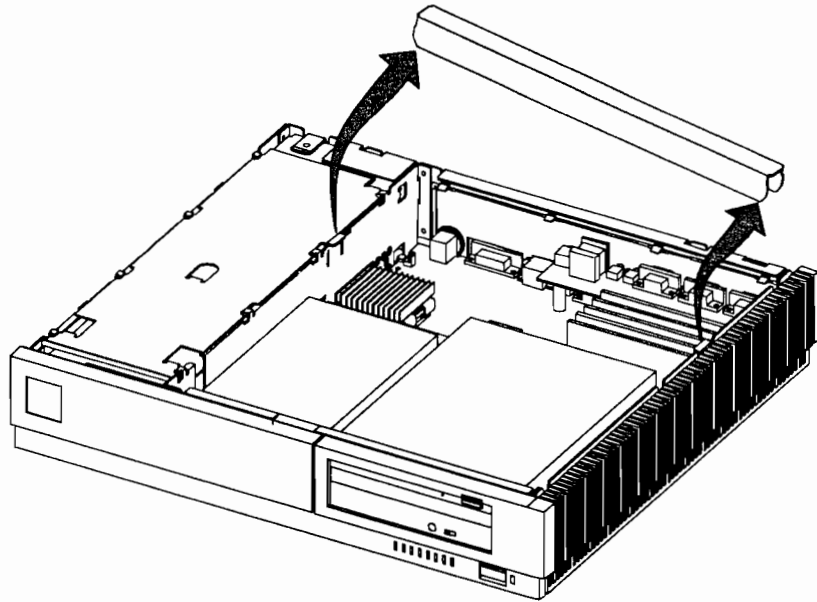

Figure B-3. Removing the Support Brace
3. Lift the support brace up and out of the system as shown in Figure B-3.